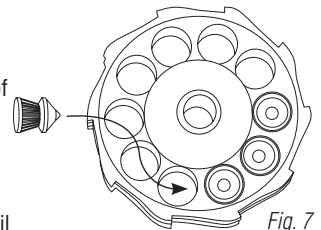

Fig. 7
2. Load pellets through the rear of the magazine. **(Fig. 7)**. Push the pellet noses through the retaining O-ring until their skirts lie flush or below the bottom of the magazine face.